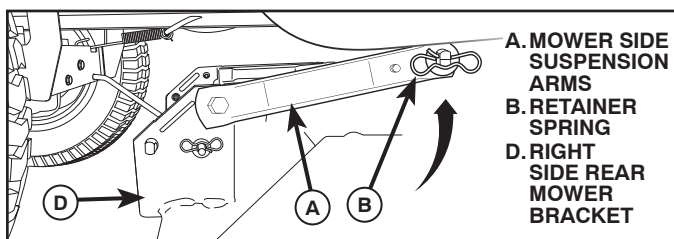

Fig. 11
## 6. ATTACH MOWER SIDE SUSPENSION ARMS (A) TO CHASSIS (See Fig. 11)
- Position front hole in side suspension arm (A) over pin on outside of tractor chassis and secure with large washer and large retainer spring (B).